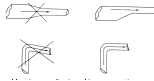

Figure 5. Correct installation of the pipeline on the suction side of the water pump
- Avoid air pockets during the installation of the pipeline, especially at the inlet end of the pump, as shown in Figure 5.